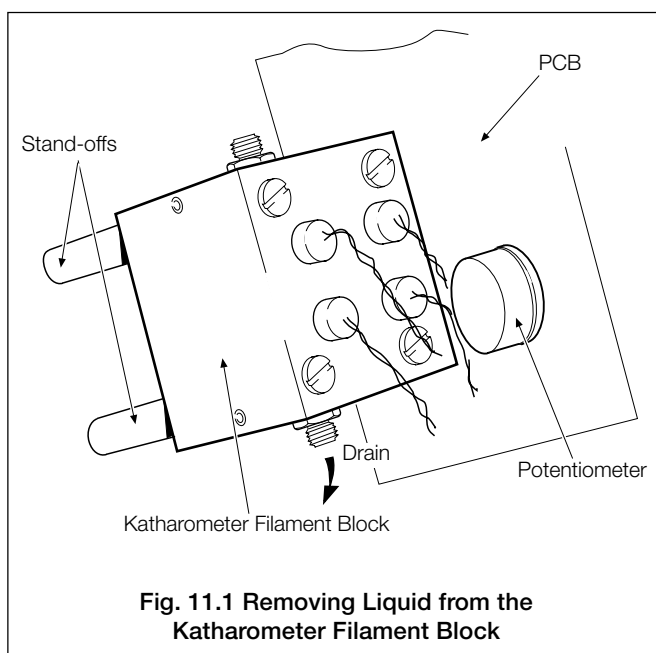

Fig. 11.1 Removing Liquid from the Katharometer Filament Block
11.4.1 Removing Liquid from Katharometer Measurement Block – Fig. 11.1
- Remove the katharometer filament block assembly from the case and tilt at 45° to the horizontal. This allows any liquid to drain from the measurement block. See Fig. 11.1.